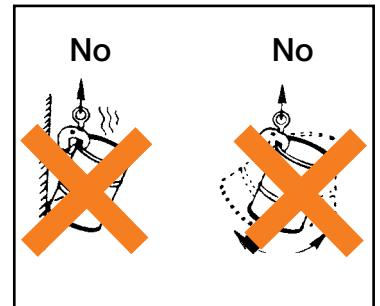

Figure 60
**⚠ WARNING!: Take up slack slowly. Do not bounce or jerk load (Fig. 60).**